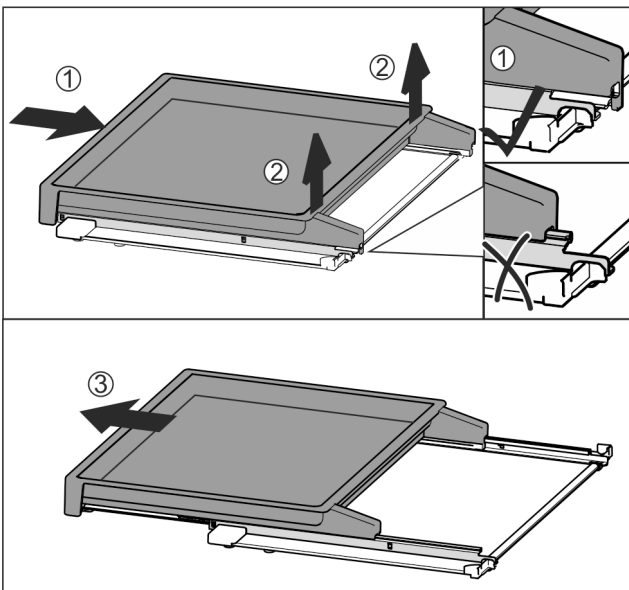

Fig. 174
- ▶ Slide the pull-out board all the way in Fig. 174 (1).
- ▶ Release the clips at the back Fig. 174 (2).
- ▶ Remove the pull-out board from the front Fig. 174 (3).